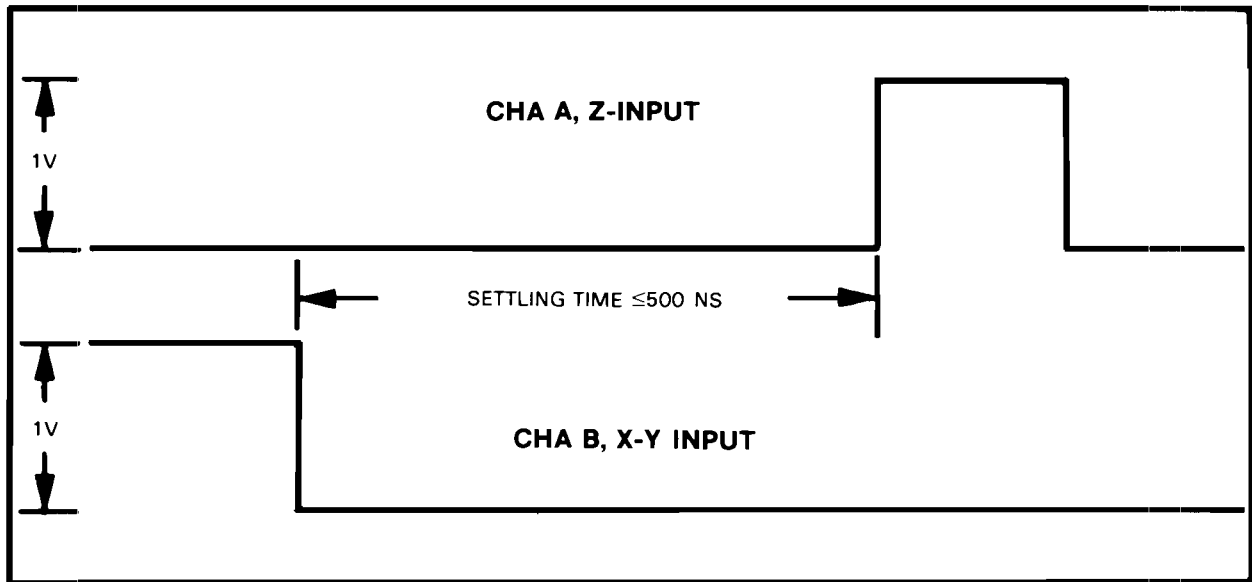

Figure 4-8. Settling Time Measurement with 1 V Input
- g. Check monitor oscilloscope for the following display (figure 4-8).